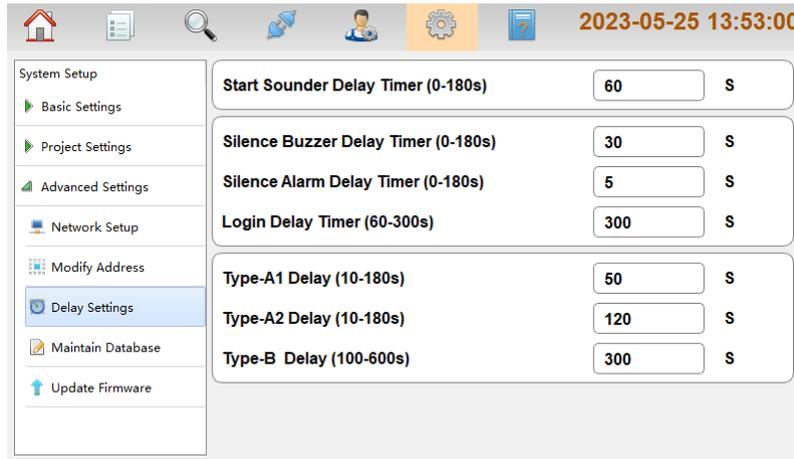

Fig. 4.28
- **Delay Setting:** Users can set delay based on the actual situation by clicking **Delay Settings** in **Advanced Settings** menu as shown in Fig. 4.28. Delay for Silence, Mute and Pre-Alarm delay timer can be set.